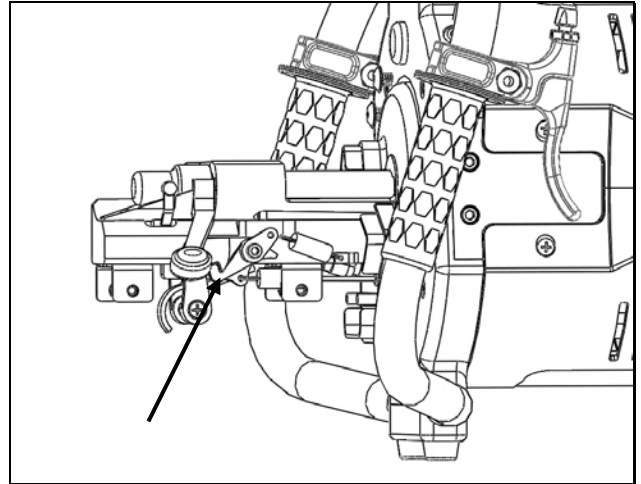

Figure 21 – Safety Catch
3. First make sure both cables are moving freely. Squeeze and release the Secondary Trigger repeatedly while watching the Safety Catch (see Figure 21). It should move smoothly and return fully to its initial position immediately when released. If it does not, contact your sales representative.